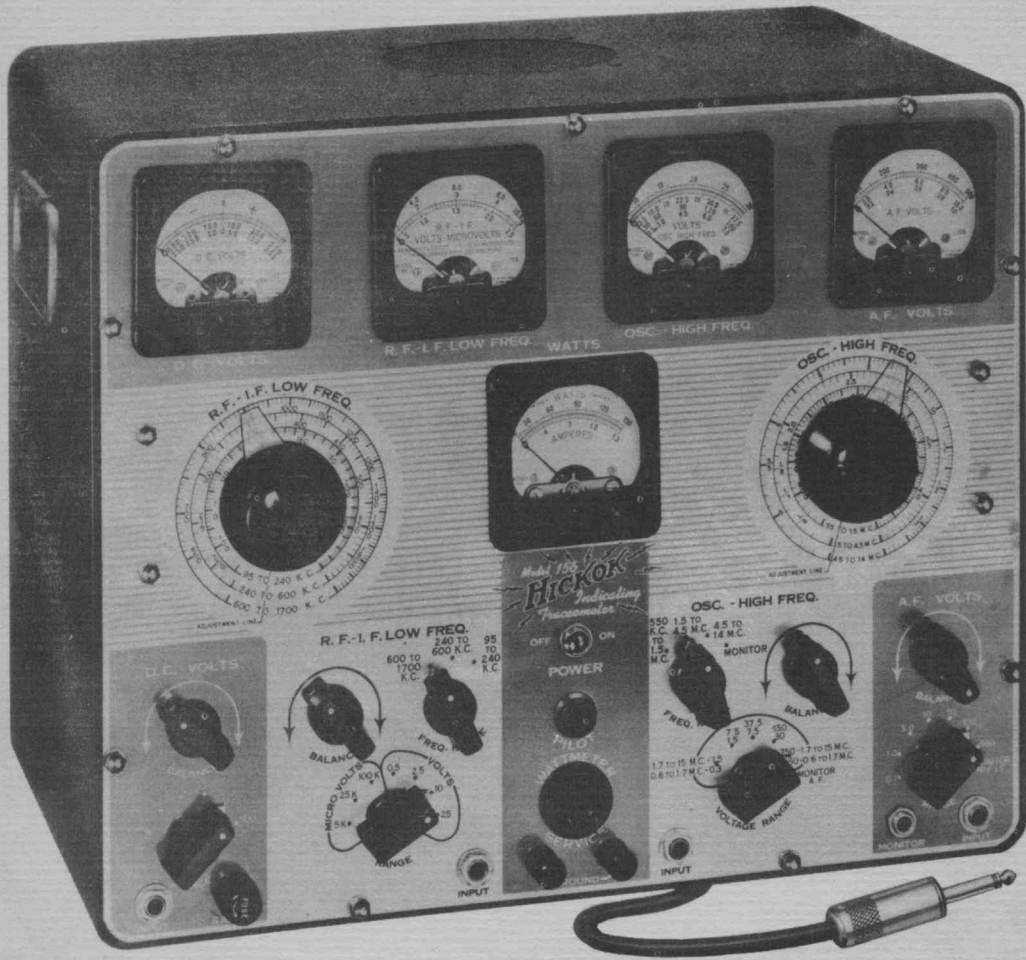

Figure 1.1 - Indicating Traceometer, Model 156
a. **Physical** - The Model 156 Indicating Tracemeter, illustrated in Figure 1.1, is a portable test instrument, self-contained in a metal carrying case with two ball-type handles on the sides and four blister feet on the bottom. The panel is of modern design with all connectors, scales and switches clearly marked.